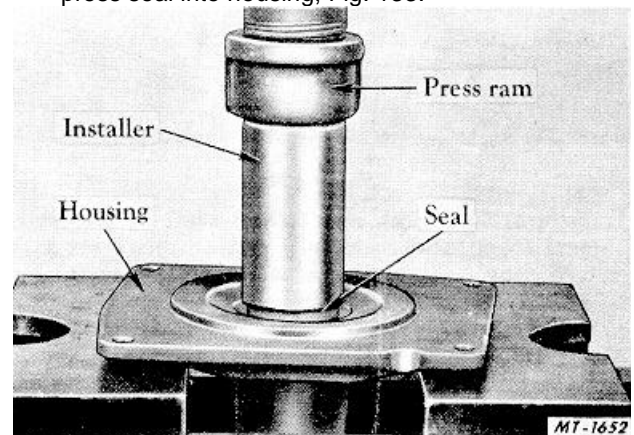

Fig. 133 Using SE-1721 Installing Tool for Water Pump Seal Assembly
1. Place the new water pump seal assembly on installing tool SE1721. Place pump housing in press and, after aligning seal and installing tool, press seal into housing, Fig. 133.